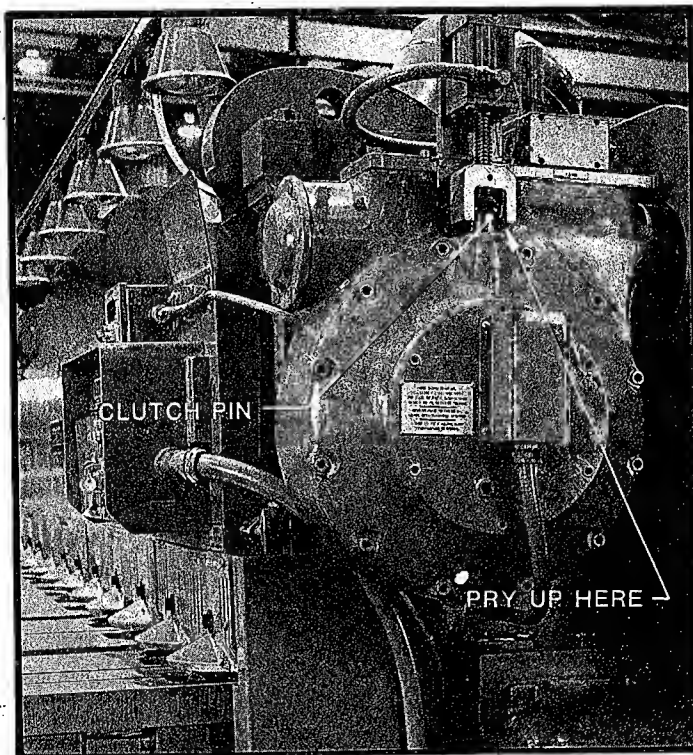

FIGURE 62
- B. Machines equipped with an air-electric clutch: Raise the clutch pin with a pry bar. Refer to Figure 62.
- b. Shears with air-electric clutch control - Use a small pry bar under clutch pin clevis to raise clutch pin (See Figure 62).